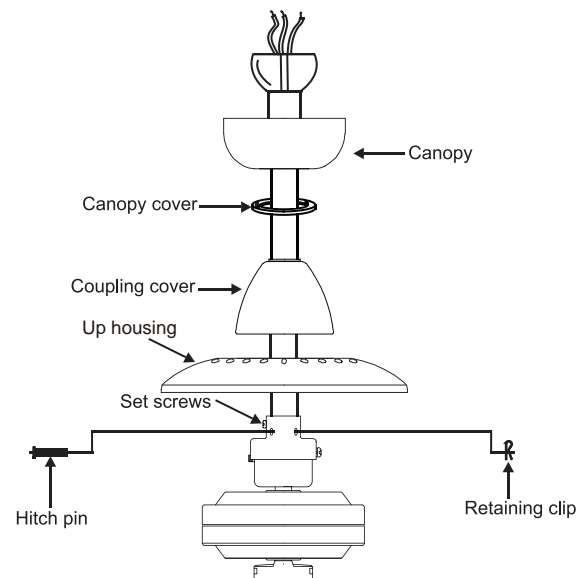

Fig. 9
Step 8. Slip the up housing, coupling cover, canopy cover and canopy onto the downrod. (Fig. 9)
Thread the hanger ball onto the downrod, insert the cross pin through the downrod and tighten. Now tighten the set screw. (Fig. 9)